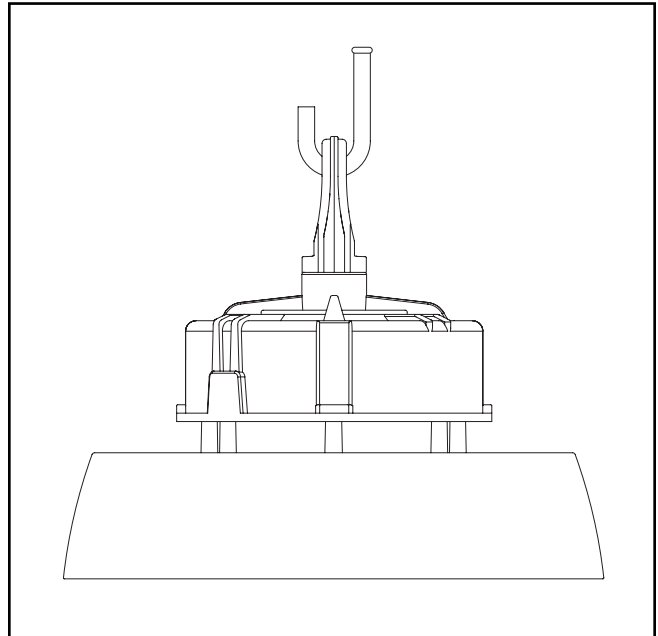

Figure 3.
3. Hang up the fixture. (Figure 3.)